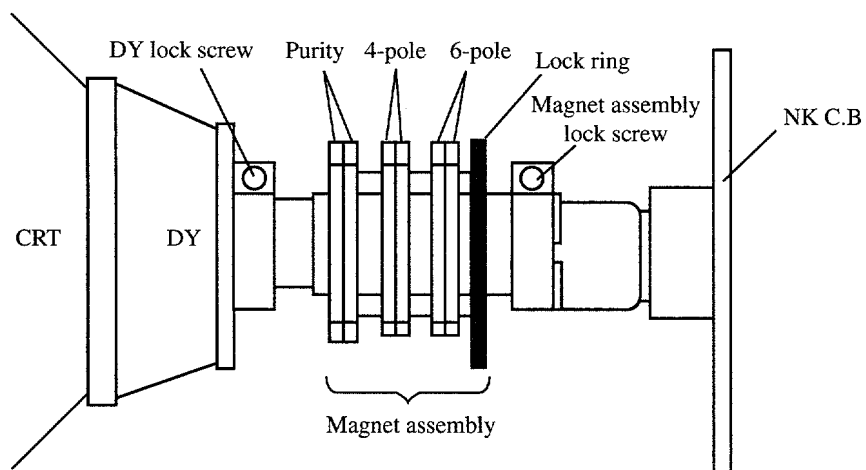

Fig 1-4
(4) The composition of each magnet is as appears in Fig. 1-4.
In making adjustments, rotate the lock ring clockwise (looking from the CRT's back screen) and disengage. Be careful not to loose the lock ring too much. If the magnet assembly has become shifted during adjustments, secure it to the position in Fig. 1-4.
- (4) After adjustments are completed, secure all magnets with the lock link. (Refer to Fig. 1-4)